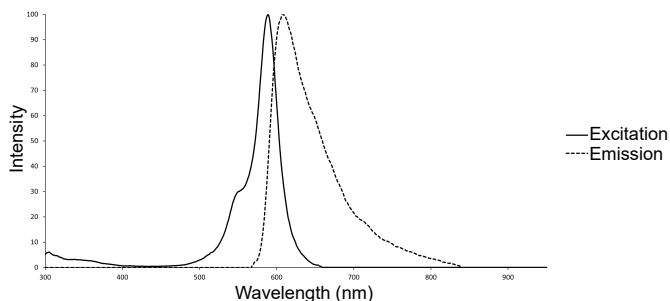

Figure 3 CellEvent™ Caspase-3/7 Red Detection Reagent: Fluorescence excitation and emission spectra after caspase-3/7 activation
- CellEvent™ Caspase-3/7 Red Detection Reagent absorbs and emits optimally at 590 nm and 610 nm, respectively (see Figure 3). Fluorescence can be visualized with a Texas Red filter.